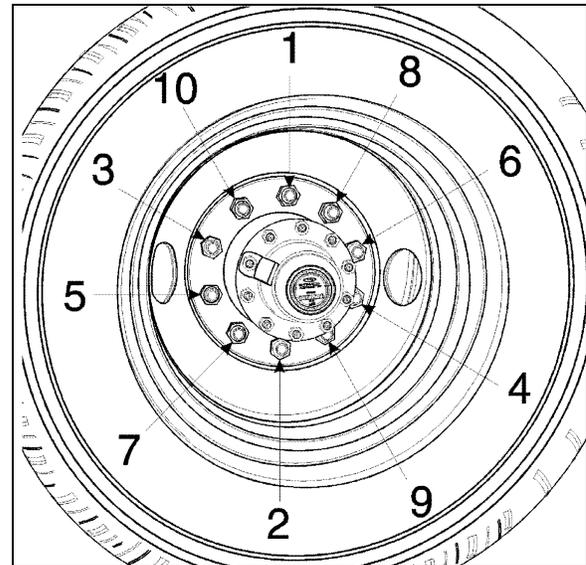

FIGURE 2: TIGHTENING SEQUENCE 13018
It is also important that wheel stud nuts be tightened alternately on opposite sides of the wheel. Refer to Figure 2 for the suggested tightening sequence.
Tighten stud nuts progressively as shown in Figure 2. The final tightening should be done with a torque wrench. Tighten stud nuts to 450 - 500 lbf-ft (610 - 680 N·m) for aluminum as well as steel wheels.
2. Screw in the hex stud nuts (refer to Figure 2 for sequence) so that wheel will position itself concentrically with hub. This is important, otherwise wheel may be eccentric with hub and will not run straight. In this initial step, slightly tighten the nuts to correctly position the wheel;
3. Tighten stud nuts progressively as shown in Figure 2. The final tightening should be done with a torque wrench. Tighten stud nuts to 450 - 500 lbf-ft (610 - 680 N·m) for aluminum as well as steel wheel.